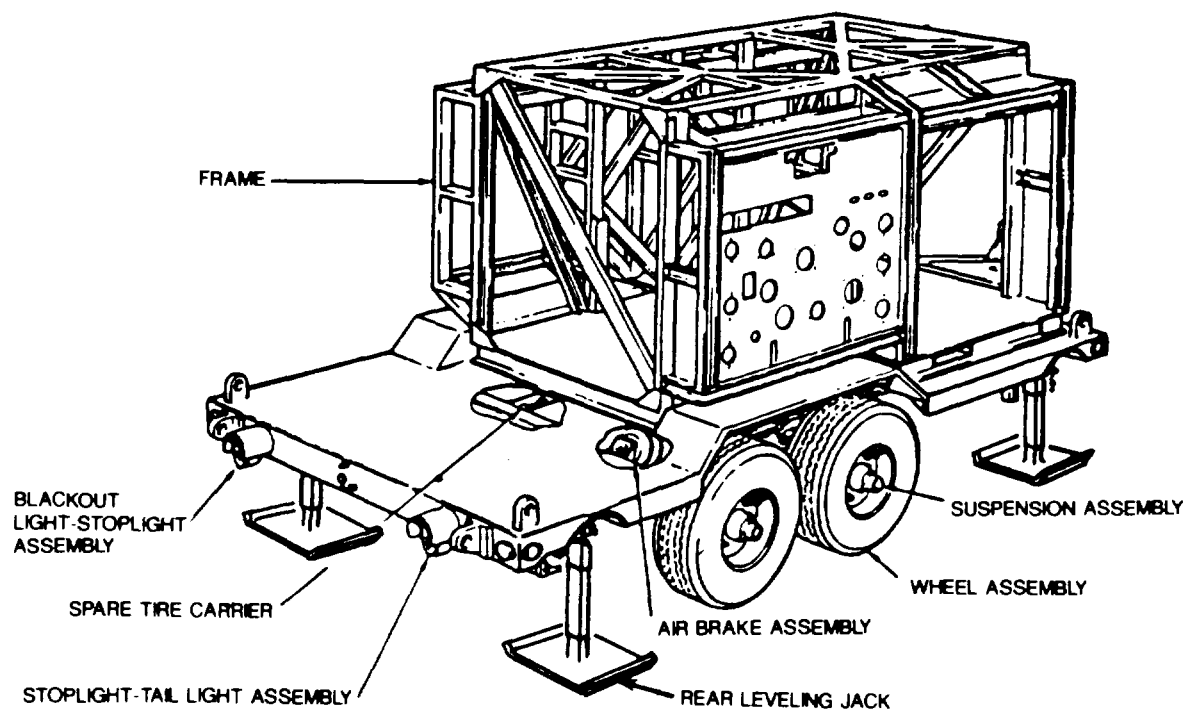

Figure 1-14. ROWPU Flatbed Trailer And Frame (Army Model No. 600-1)
f. Fig. 1-14 and 1-15 (Army) show the location of the trailer's major components. The Marine Corps ROWPU is skid mounted, but the frame is the same as shown.